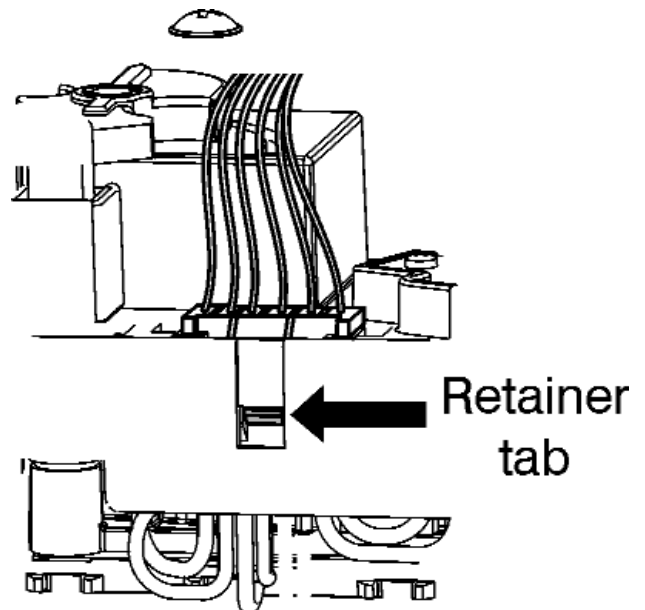

Figure 38. Wiring block removal
8. Remove the wiring block from the front of the valve. To do this press the retainer tab on the base of the valve (See figure 38) whilst gently pulling on the leads.